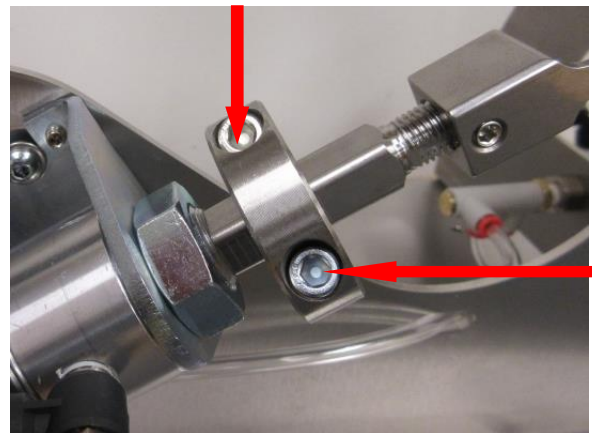

Figure 4
- Break loose the two (2) bolts on each of the four (4) stop collars using a 3/16" hex wrench. Position the stop collars at the same indicator mark on all four (4) cylinder shafts and retighten the bolts. (**Figure 4**)